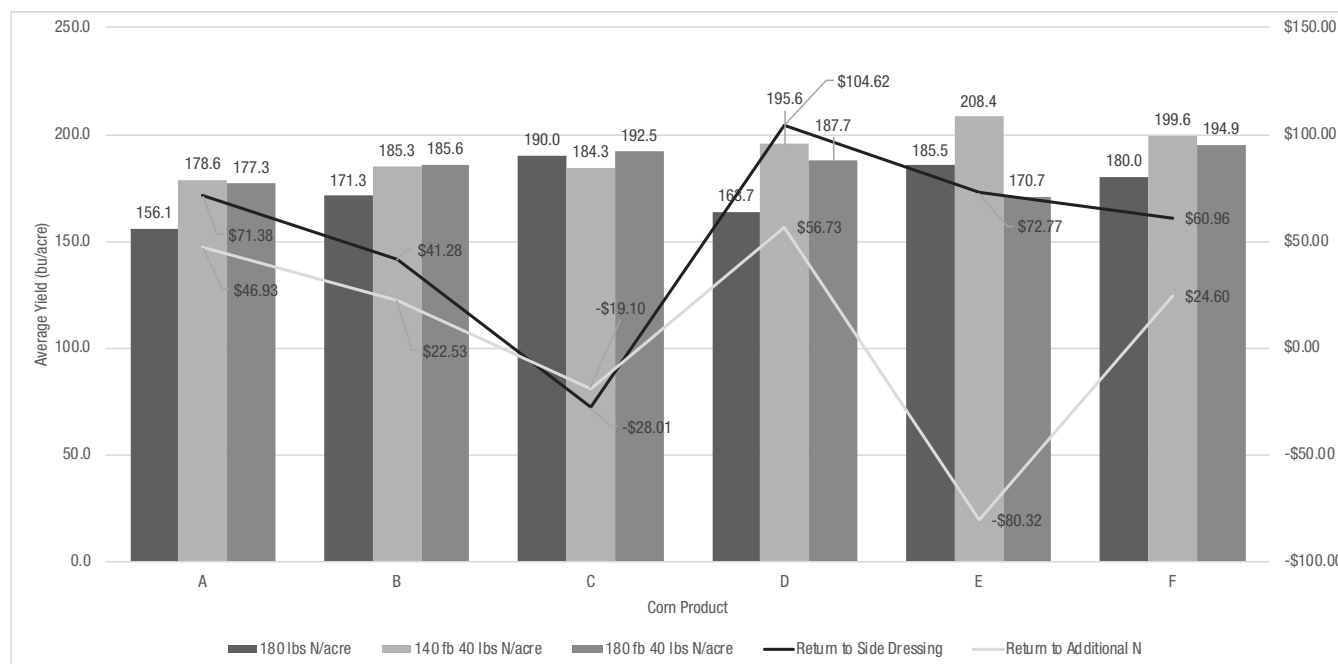

Figure 1. Average yields (bu/acre) of six different corn products at three different nitrogen rates and timings and return over nitrogen cost.
- This demonstration assumes \$3.53 per bushel, \$.50 per pound of N, and \$8.00 per acre for side dress application costs (Figure 1).